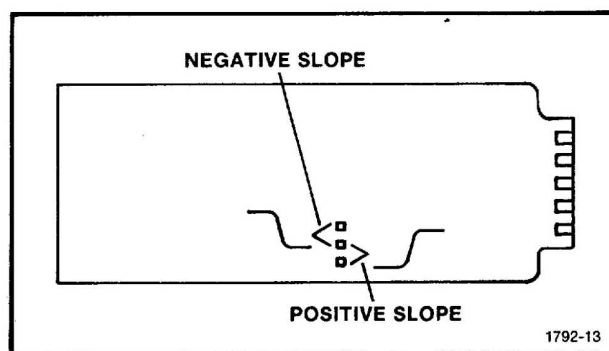

Figure 3-8. X-Y Output Module Strap.
**Pen Lift.** The Pen Lift signal level changes when the RECORD switch is activated. The normal level is either 0.0 V  $\pm$  0.5 V or 5 V +0 or -1 V, depending on how the terminal link of the X-Y Output Module board is connected (positive or negative slope, see Fig. 3-8). When the RECORD switch is activated, the level will change from 0 V to 5 V or from 5 V to 0 V. The driving capability of this signal source is given in the Specification section of this manual.